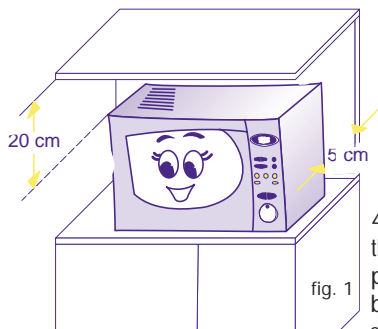

fig. 1
- 3) Place this oven on a surface so that there remains a space of about 5 cm. between the oven's surface portions and the walls to the side and the back, and a free space of at least 20 cm. above the oven (see Fig. 1).